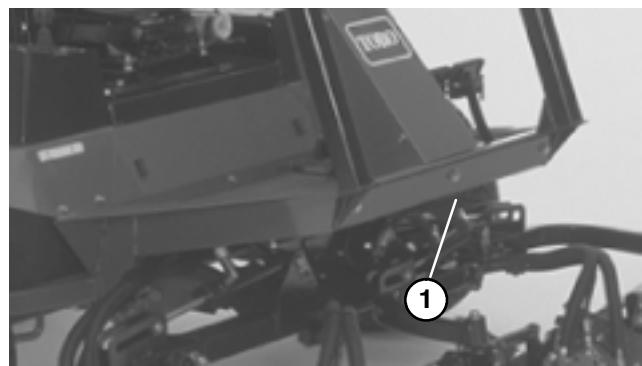

Figure 32
2. Attach a suitable chain, strap or cable to the center of the front frame member (Fig. 32).